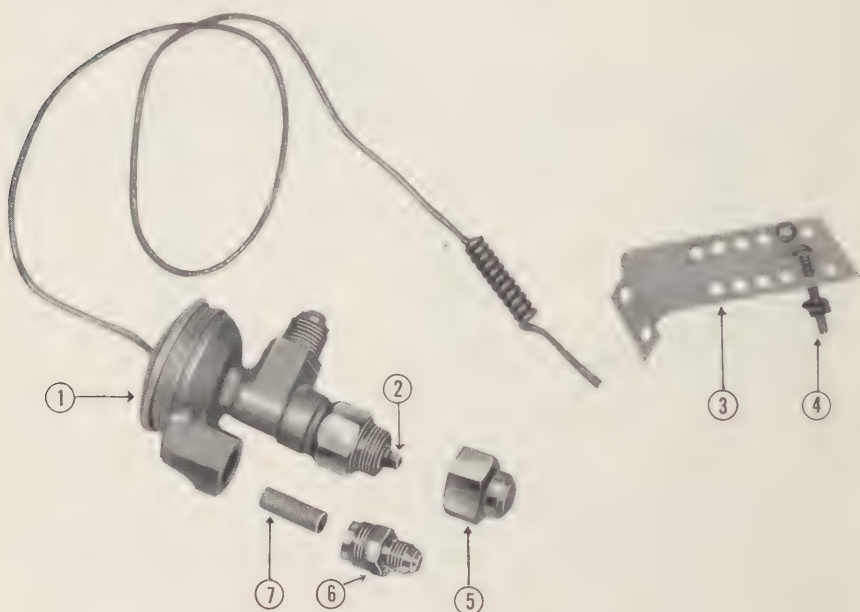

Figure 37. Thermostatic expansion valve removed.
- (1) Remove the bottle racks and shelves from the evaporator.
- (2) Remove the valve stem (fig 37, item 5) exposing the adjusting stem (fig 37, item 2).
- (3) To raise the superheat turn the adjusting stem counter clockwise.
- (4) To lower the superheat turn the adjusting stem clockwise.
- (5) Reinstall the valve stem cap gas tight.
- (1) Remove the expansion valve as outlined in par 50 f.
- (2) Unscrew the liquid line fitting (fig 37, item 6) from the valve.
- (3) Remove the strainer from the liquid line fitting (fig 37, item 7).
- (4) Clean the strainer using carbon tetrachloride.
- (5) Replace the strainer into the liquid line fitting and connect fitting to valve.
- (6) Install the expansion valve as outlined in par 50 h.